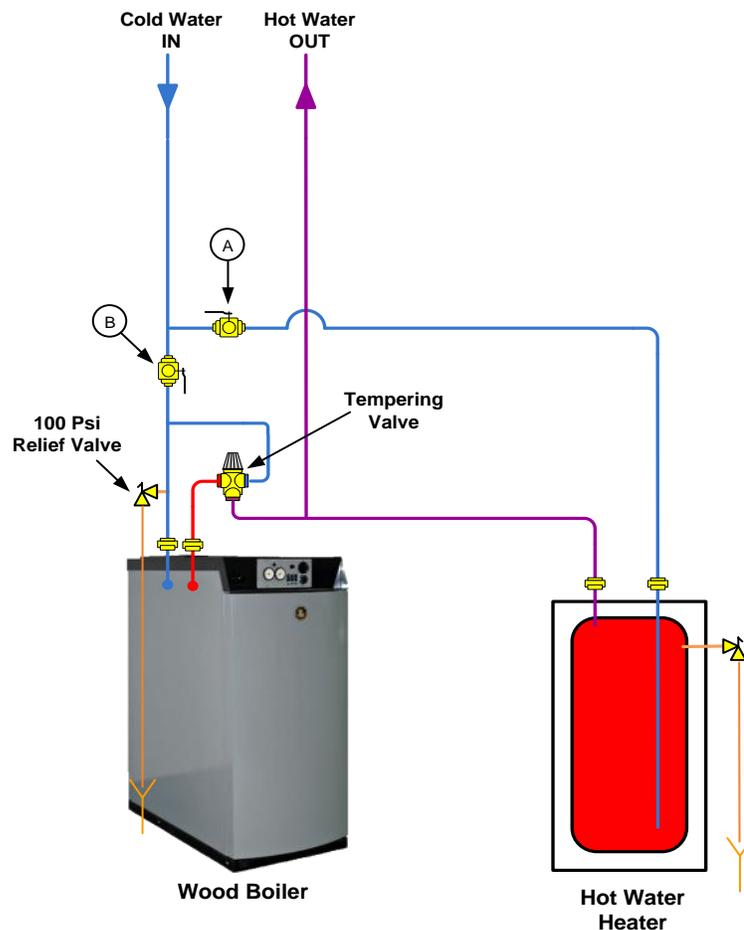

Fig. 3.4 Domestic Hot Water Piping
A tankless coil for heating domestic hot water is available as an option on the Solo Plus boiler. For ready access to the coil, remove the boiler's jacket (refer to **Fig. 3.4** for piping).
**DOMESTIC HOT WATER PIPING WHEN A SEPARATE DHW HEATER IS USED IN THE SUMMER MONTHS (Fig . 3.4)**